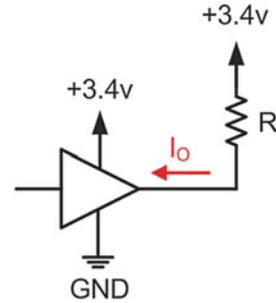

Fig. 3.40
3.4.3 For the pull-up driver configuration shown in Fig. 3.40, calculate the value of the pull-up resistor (R) in order to ensure that the output current does not exceed 20 mA.